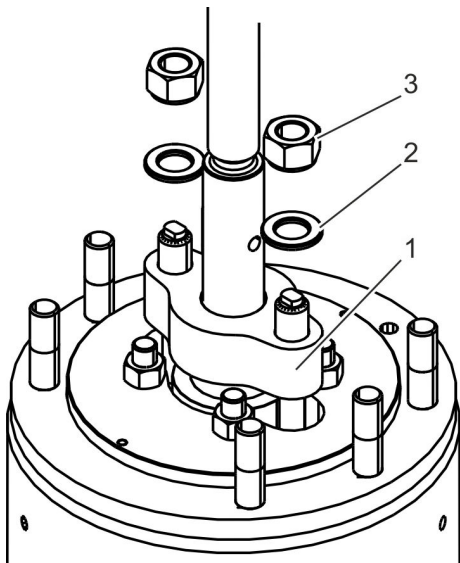

Fig. 28: Mounting the gland follower flange
- 16. ▶ Attach the gland follower flange (Fig. 28/1) and bolt uniformly using washers (Fig. 28/2) and nuts (Fig. 28/3) in accordance with the manufacturer's specifications.